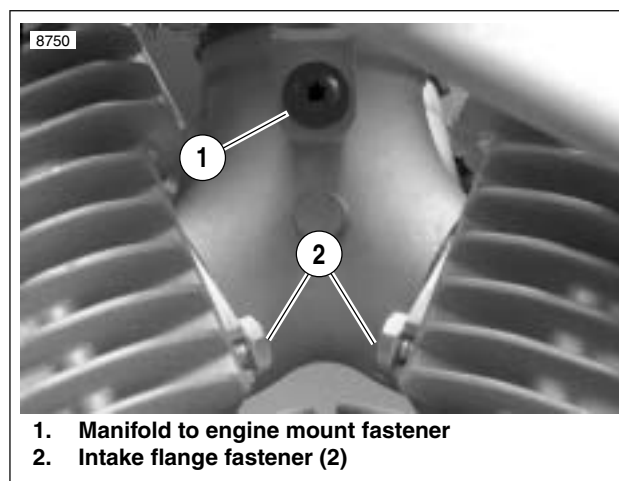
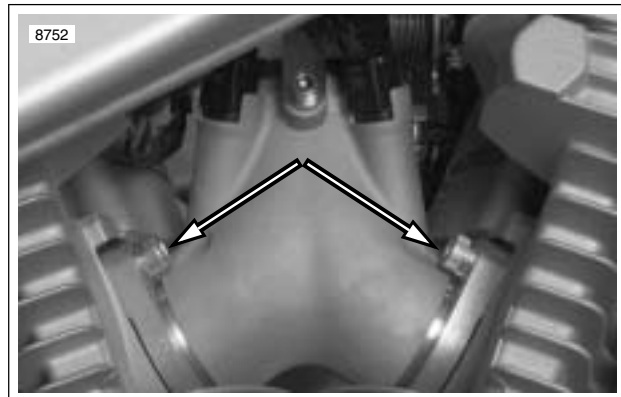

Figure 4-102. Intake Manifold (primary side)
Figure 4-103. Intake Manifold Fasteners (gearcase cover side)
- a. See Figure 4-102. On primary cover side, loosen but do not remove the two front and rear intake flange fasteners (2).
- b. Remove fastener (1) holding manifold to engine mount.
- c. See Figure 4-103. On gearcase cover side, remove both intake flange fasteners from cylinder heads.
- a. See Figure 4-102. Slide the assembly toward installed position. Manifold should slide over fasteners (2) on primary cover side of engine.